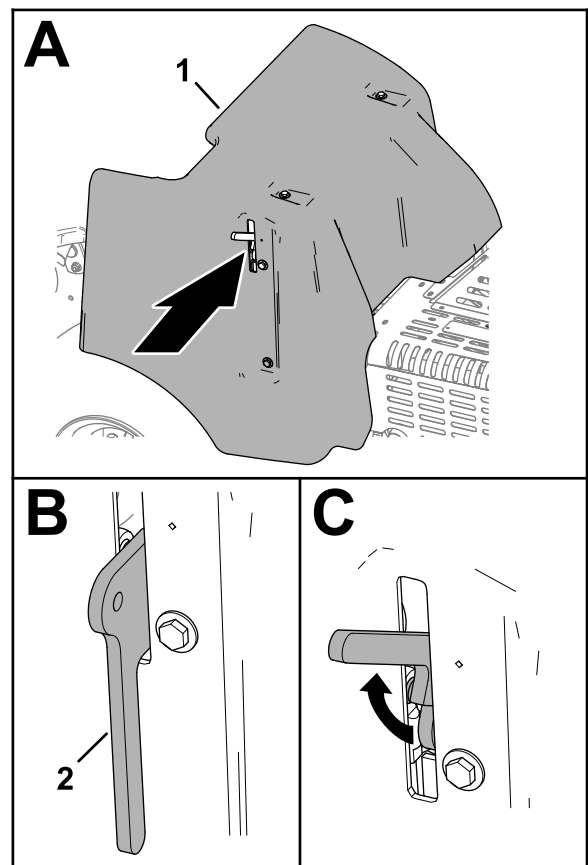

Figure 131
2. Lift the latch handle (Figure 131).